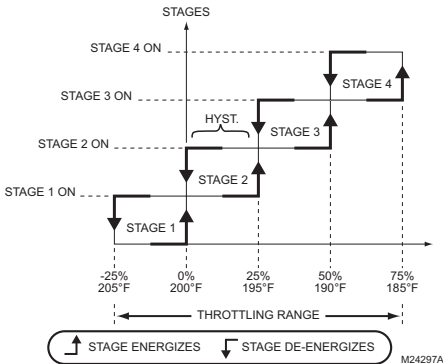

Fig. 18. Staging Behavior
Staging occurs as illustrated in Fig. 18 for a Heat setpoint of 200°F and a throttling range of 20°F when the Integral value is zero (0). When the Integral is not zero, then the actual temperatures at which stages energize and de-energize will vary from this example; see "1.3.4.2. INTEGRAL" on page 18.